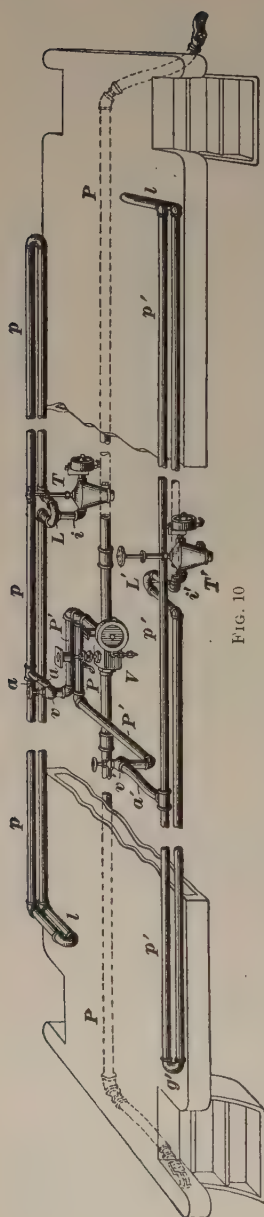
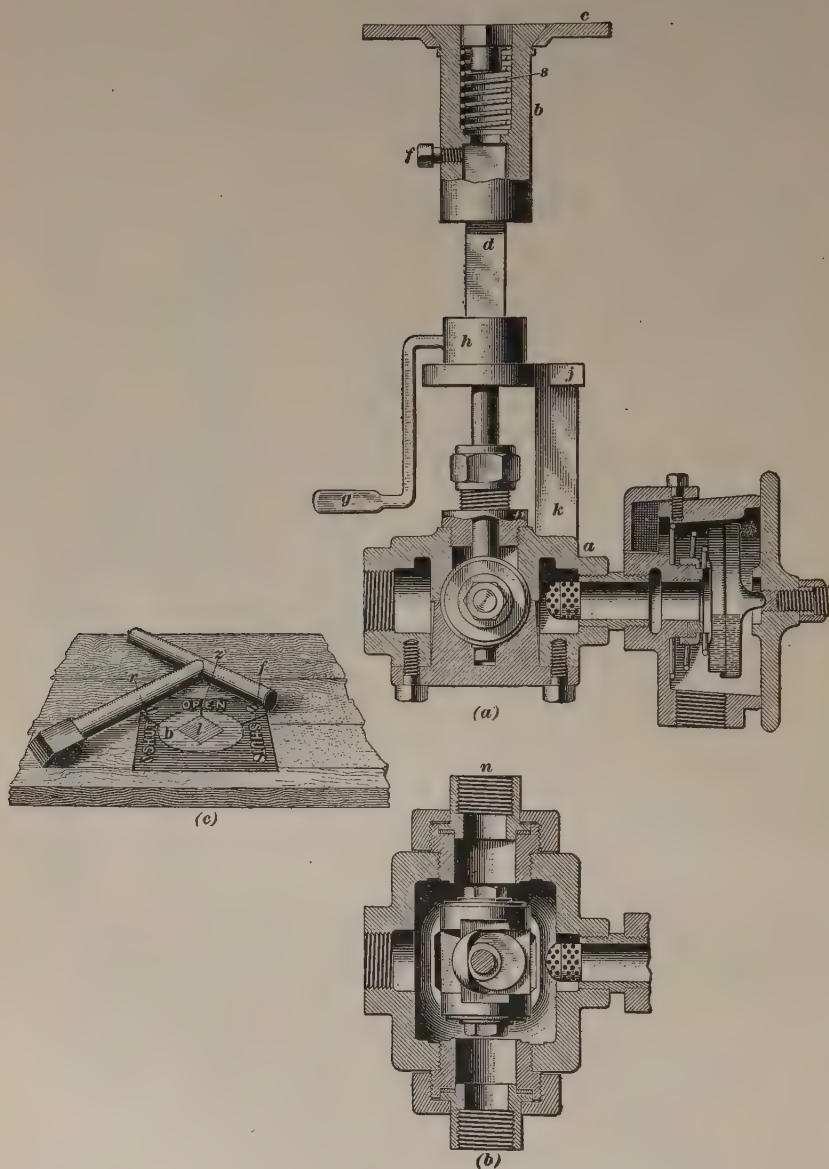
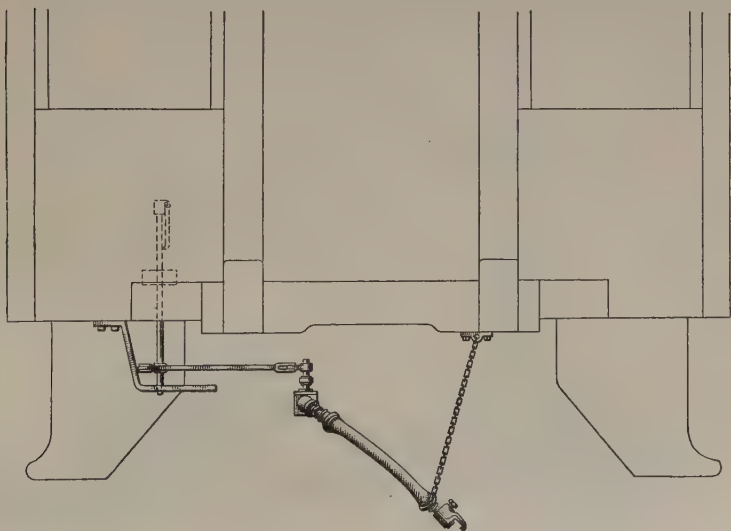

FIG. 10
FIG. 11
FIG. 12
18. Pressure Gauge.—The function of the **pressure gauge** is to indicate the pressure within the heater. Thus, the figures 10, 20, etc., on the dial refer to pounds of pressure. If the heater is in good order, and the instructions herein given for its management are faithfully followed, no excessive pressure can result. Attention is directed to the fact that the less pressure at which the heater can be operated, the better.
30. General Description.—Fig. 10 shows a plan of a car floor, in perspective, in which direct, or straight, steam is used. Steam is taken from the train pipe *P* by means of the train-pipe valve *V*, which can be operated from either inside or outside the car. As seen in the illustration, this valve is attached to the train pipe underneath the car, and as a rule in about the center of the car's length. At one side of
31. Train-Pipe Valve.—The train-pipe valve, used for controlling the supply of steam to the individual car, is shown in Fig. 11 (*a*). The part marked *a* is the valve body, inside of which is a valve that is operated from inside the car by the socket *b*, the floor plate *c* having marks thereon to act as a guide to the valve's position; *d* is the spindle that actuates a cam or eccentric that works inside the piston valve contained inside the body *a*. This spindle has a square fit inside the socket *b*, and is also held by the setscrew *f*; the spindle *d* can be turned around by means of the handle *g*, which is fastened to the flange sheave *h* by a setscrew. The sheave spring *j* is held in the arm *k* and engages with a slot in the edge of *h*. The spindle *d* can also be turned by inserting a key in the top of the socket *b*, the key being shown in view (*c*); a downward thrust displaces the plug *l* against the resistance of a spring *s* inside *b*, view (*a*), and then the socket, and with it the spindle *d*, can be rotated. The connection with the train pipe is made by means of the union coupling *n*. Any condensation is taken care of by the steam trap attached to the side of the valve body, and so water is prevented from backing up into the piping, where it could freeze and burst the pipes. The purpose of the train-pipe valve is to shut off the steam at the train pipe from all cars in the rear of that particular valve; it is not intended as a means of shutting off steam from its own car, as it would also shut it off from all cars behind it. The steam is shut off from a certain car by using the steam valves *v, v'*, Fig. 10. When changing engines, the valve can also be operated so as to shut in the steam already in the train.
32. End Train-Pipe Valve.—The end train-pipe valve, Fig. 12, is constructed on the same principle as the ordinary standard valve shown in Fig. 11, and is opened and closed
35. Operating the System.—1. *Working the Train-Pipe Valve.*—In Fig. 11 (c) is shown a plan view of the floor plate c , showing also the top of the socket b . A groove z is cut in the upper surface of the socket, and three others in the floor plate. The valve is moved by rotating the spindle d ; the socket and spindle move together. Hence, when the valve moves, its positions are indicated to the trainmen by the position of groove z relative to the grooves in the floor plate. The front and rear of train being as here shown, we will allude to the two "shut" grooves as f and r , respectively. Then, if it is desired to shut off steam from the cars in the rear of the one whose train-pipe valve we are supposed to be operating, or if this is the rear car, groove z must be brought in line with groove r . If steam is required to pass through to the rear cars, z will stand as in Fig. 11 (c), in line with the "open" groove.